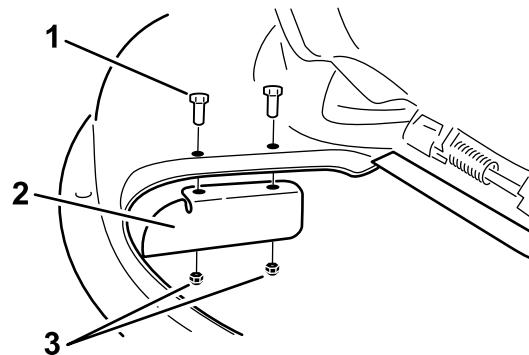

Figure 29
9. Install the cutoff baffle to the mower deck (Figure 29).
3. Remove the cutoff baffle from the mower deck (Figure 29).